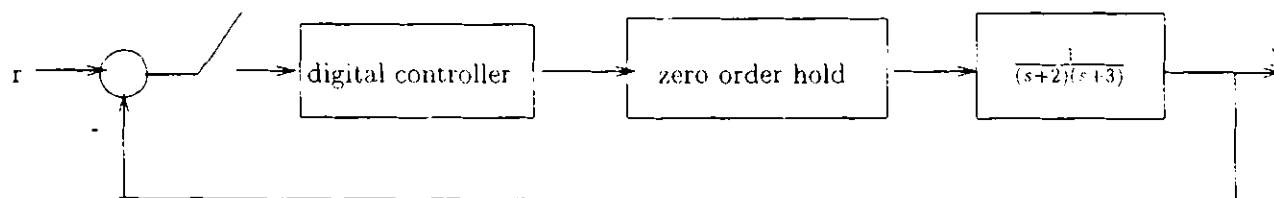

Figure 2.1
- Now put $C_d(z)$ as the digital controller in Figure 2.1. At sampling points, we have a discrete-time feedback control system. It has the structure shown in the following figure.